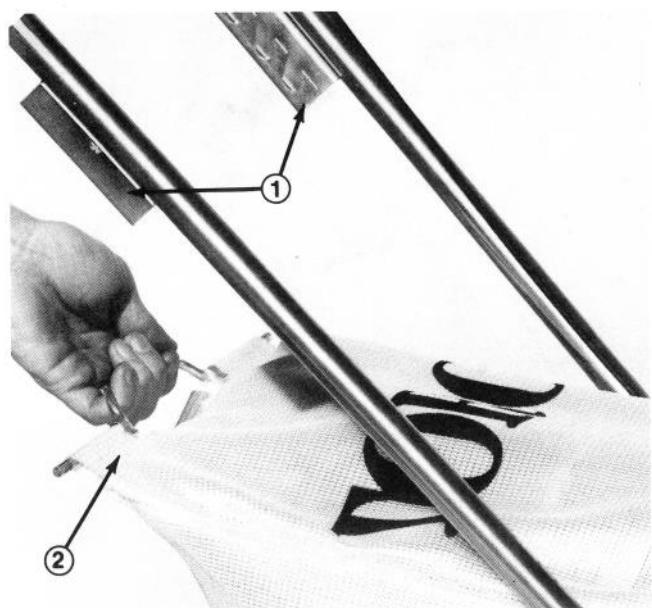
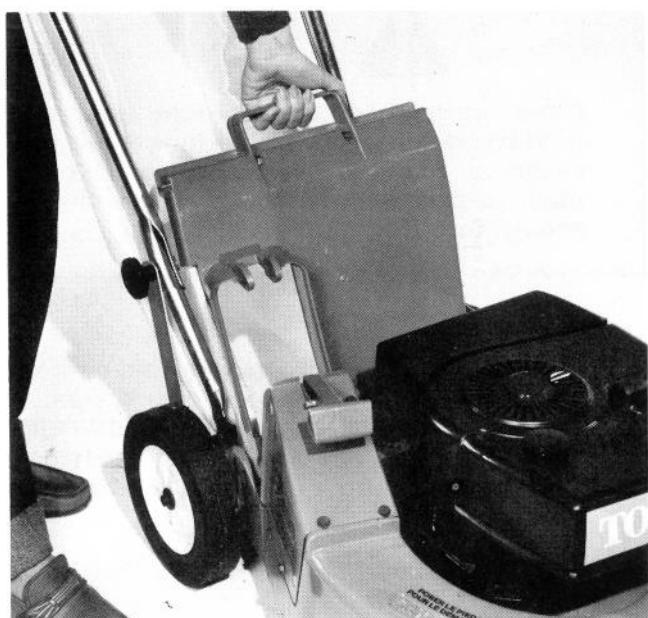

Figure 21
Figure 22
7. **⚠** When bag must be emptied, stop the engine and wait for all parts to stop moving. Move mulcher door handle forward until pin locks in the latch. Then, lift rear bag off rear brackets (Fig. 21), grasp front bag handle and lift straight up to remove bag from mower and keep clippings from falling out of bag (Fig. 22).